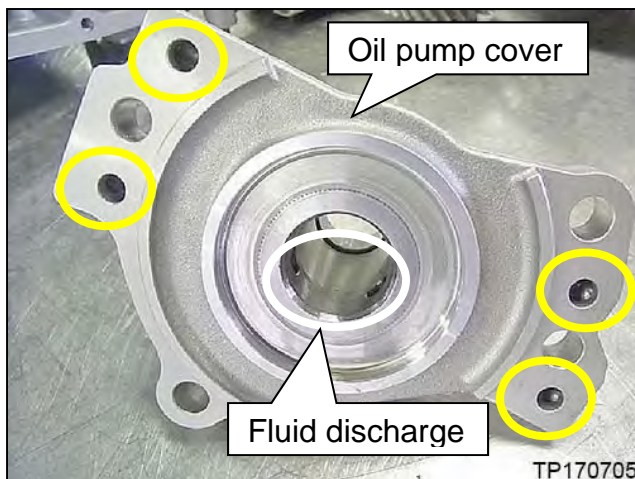
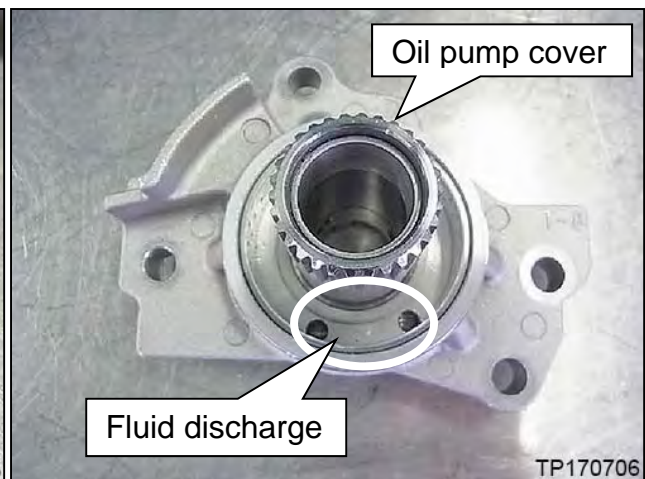

Figure 121
Figure 122
- d. Spray brake cleaner into the oil pump cover oil passages indicated in yellow in Figure 121.
To avoid the risk of minor personal injury, do not face the passage indicated in white in Figure 121 and Figure 122 while cleaning.